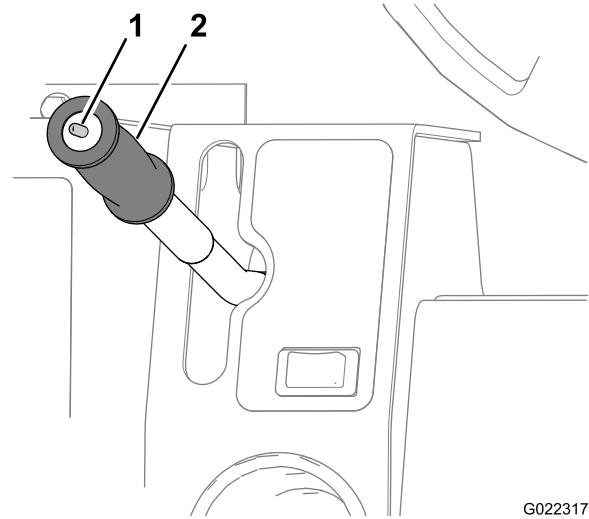

Figure 25
This toggle switch (Figure 25) controls the mode for the hydraulic motor and has 2 positions: Transport and Work. Select the desired operating position. Push the switch to the rear (toward you) to set to Work speed (W), or push the switch forward (away from you) to set to Transport speed (T).